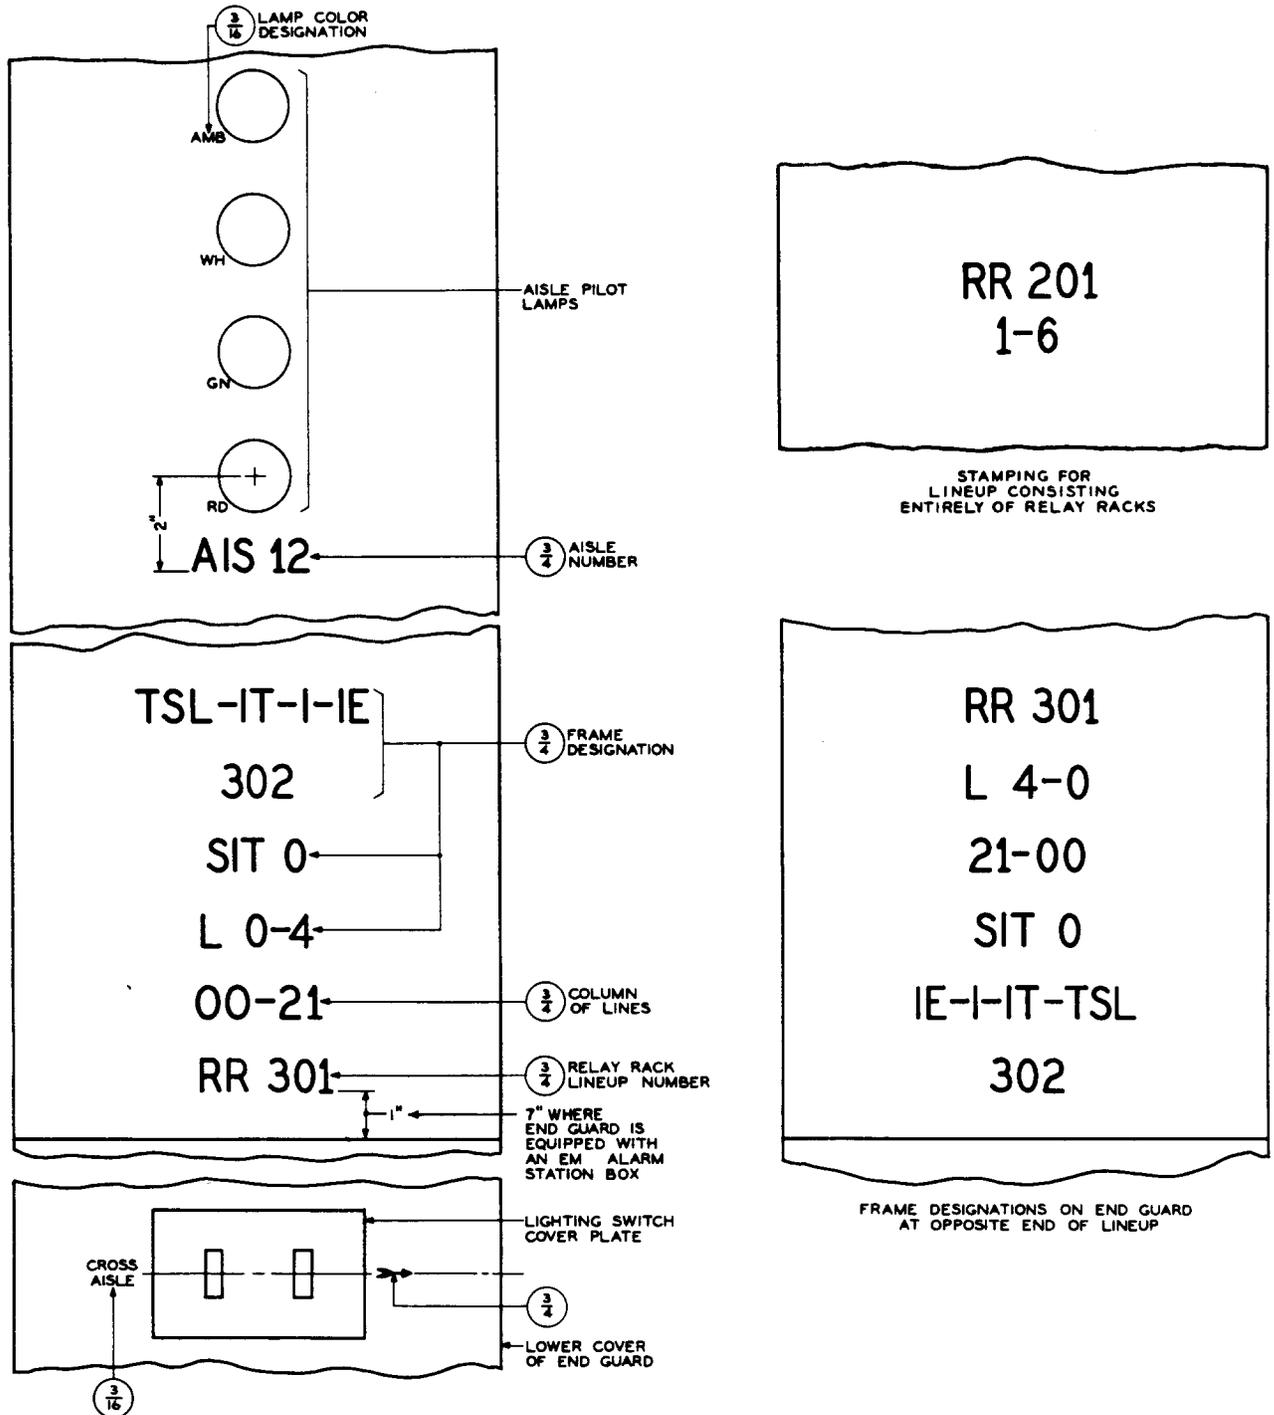

Fig. 37 - Line-up Designations on Cabinet-type End Guards
2.61 *Frame designations and relay rack line-up numbers* (RR 302) shall be stamped on the end guard at each end of each line-up [except as indicated in (a) and (b) below], to indicate the frames and racks in the line-up. Where there is more than one frame in the line-up, the order in which the designations appear, either horizontally from left to right or vertically from top down, shall be in the same order as these frames are encountered in proceeding down the frame aisle away from the end guards. See Fig. 37. In locating the designations for partially equipped rows of frames, sufficient space shall be left for the addition of the ultimate designations in their proper locations.
2.64 *Aisle pilot lamps in cabinet-type end guards* shall be stamped with the lamp colors and the aisle number, as shown in Fig. 37.
2.66 *The designations for the lighting switch coverplate* shall be stamped on the end guard adjacent to the switch plate, as shown in Fig. 37.